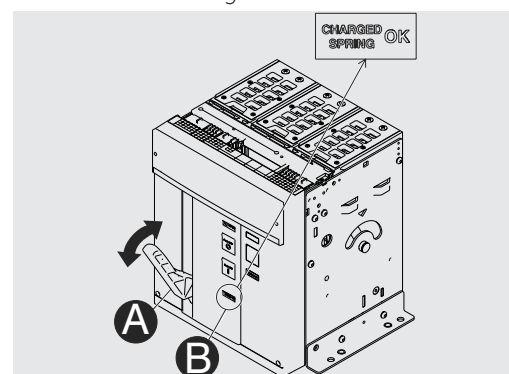

Figure 26
2. Charging the springs - Pull the lever [A] downwards several times until the springs charged signalling device [B] is "yellow - CHARGED SPRING" as indicated in Figure 26.